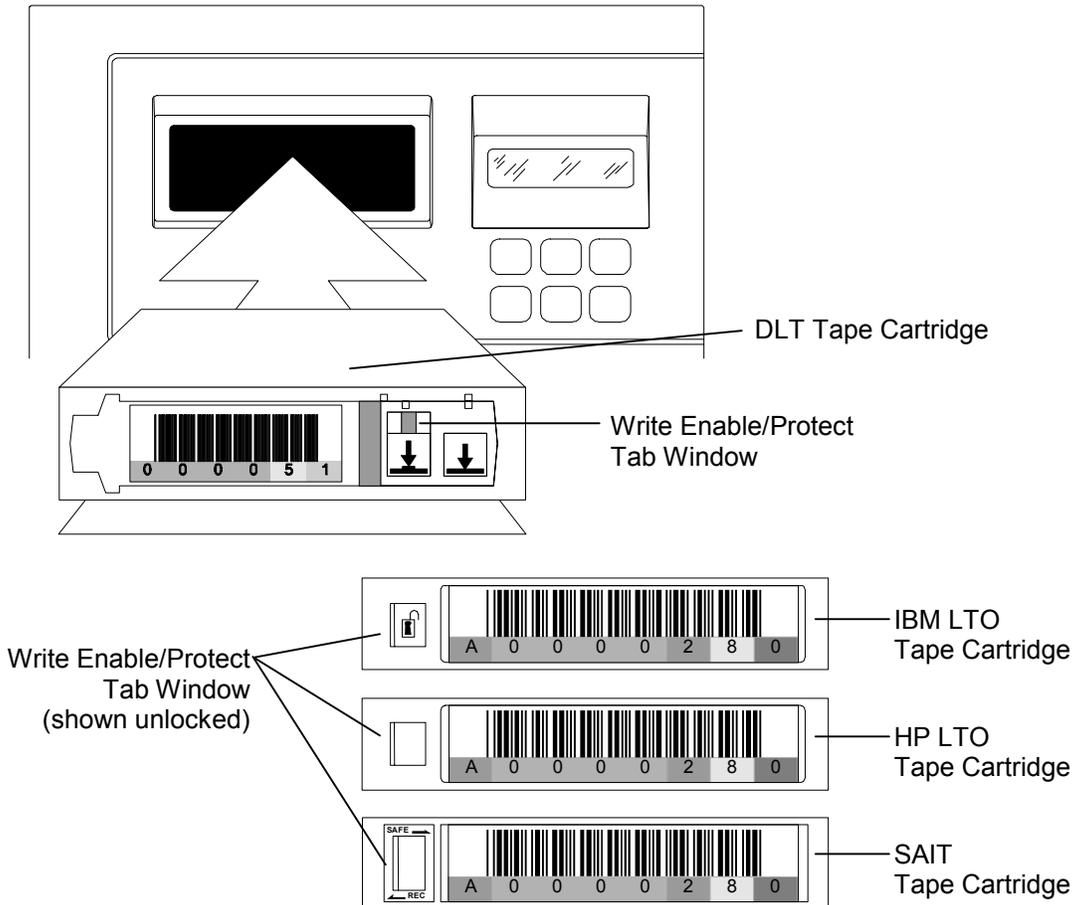

Figure 6-3 Inserting a Tape Cartridge into the I/O Port
2. Make certain the Write Enable/protect tab on the tape cartridge is set correctly (see Figure 6-3), then fully insert the tape cartridge into the I/O Port slot as shown (Write Enable/Protect tab facing out and on the right-hand side).